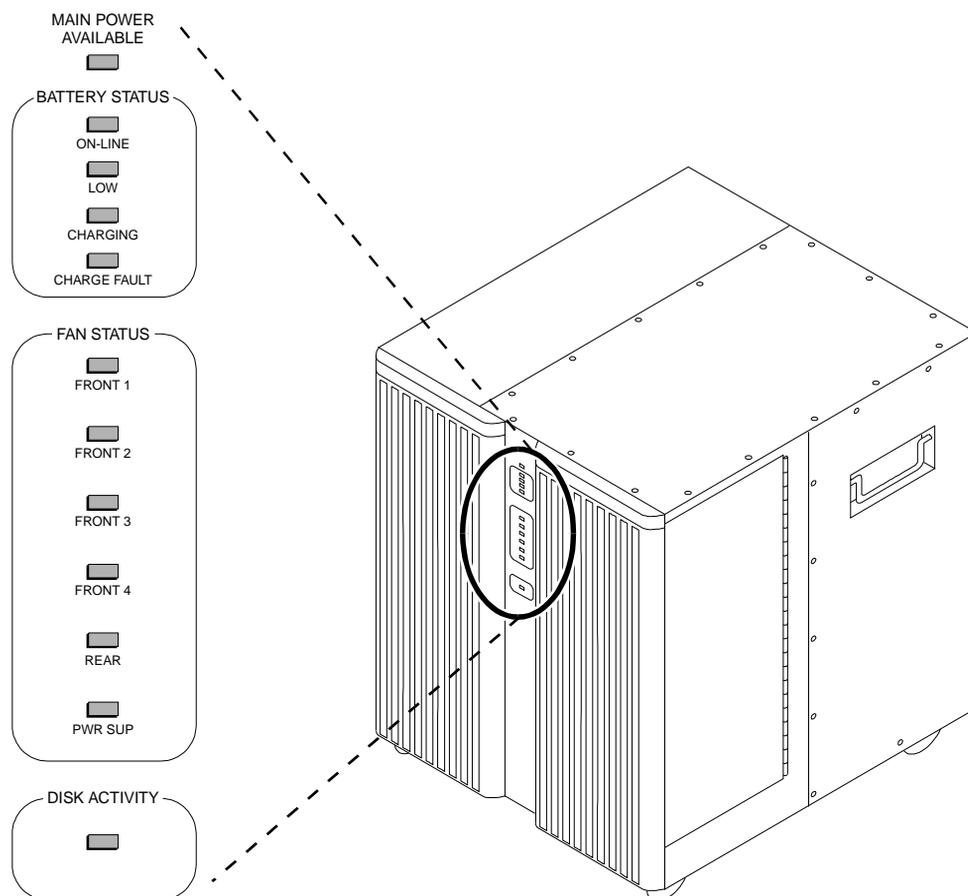

Figure 7-6. MAP/100 Monitoring Panel
The MAP/100 monitoring panel includes indicator lamps which are lit when the associated fan in operation (Figure 7-6). The indicator lamp for the defective lamp will not be lit.
11. Verify that the fan is working by observing the MAP/100 monitoring panel (Figure 7-6).
8. Verify that the fan is working by observing the MAP/100 monitoring panel (Figure 7-6).